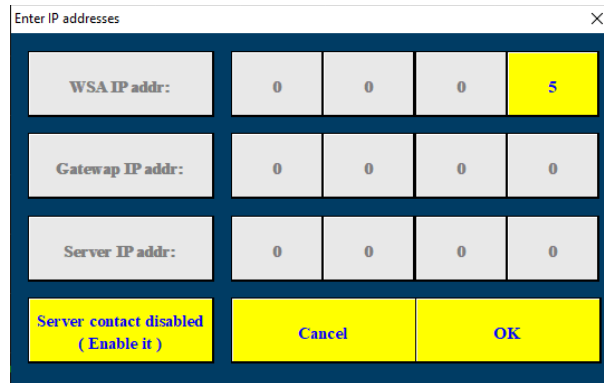
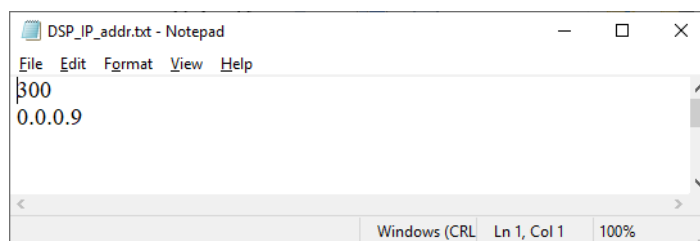

Figure 4 - IP address changing dialog
Figure 5 - Information recorded inside the “cfg\DSP_IP_addr.txt” file after IP address change takes effect
After launching the “WSA.exe” GUI application and successful connection with the WSA (with direct local ethernet cable connection between the two), you should see a spectrum display and soft buttons on two sides. Click the left bottom button labeled as “System Config”, then click “Advanced configurations”, then select “Change IP address”, you’ll see a dialog shown as in Figure 4.
If you still like to maintain the default IPv4 address structure (highly recommended, DSP's first 3 bytes are identical to those of the PC's), but just change the last byte from the default “5” to some other number such as “9”, then just click the upper right most yellow-colored button “5”, and then enter number “9”, and then click “OK”. The GUI software will momentarily close and relaunch itself. After re-connection, the DSP's address is now “x.y.z.9”. Such change is simultaneously reflected in the “cfg\DSP_IP_addr.txt” file whose content will be as shown in Figure 5 after the IP address change taking effect.
The second line “0.0.0.9” inside the “DSP_IP_addr.txt” file shown in Figure 5 means that the DSP's IP address is now “x.y.z.9”, where the 3 leading 0s indicate “don't care” (which will always follow those of the PC's).
If you must assign WSA a “legitimate” global IPv4 address whose first 3 bytes may differ from those of the PC’s so that it can be accessed in wider area network, then in Figure 4, you must click the lower left “Server contact disabled” button first. After that, you can then edit all 4 bytes of the IP address fields as shown below:
1. Find the original PC that was used with this particular WSA unit most recently, and check the “cfg\DSP_IP_addr.txt” file as shown in Figure 5. The second line shows the exact IP address of the WSA unit (such as 192.168.24.19). The new PC that is supposed to work with it must have its “cfg\DSP_IP_addr.txt” modified first to “192.168.24.19” (the second line only) and saved, and then launch the WSA GUI application. If you want to change the DSP’s IP address back to the normal default, proceed with the steps illustrated above with Figure 4.